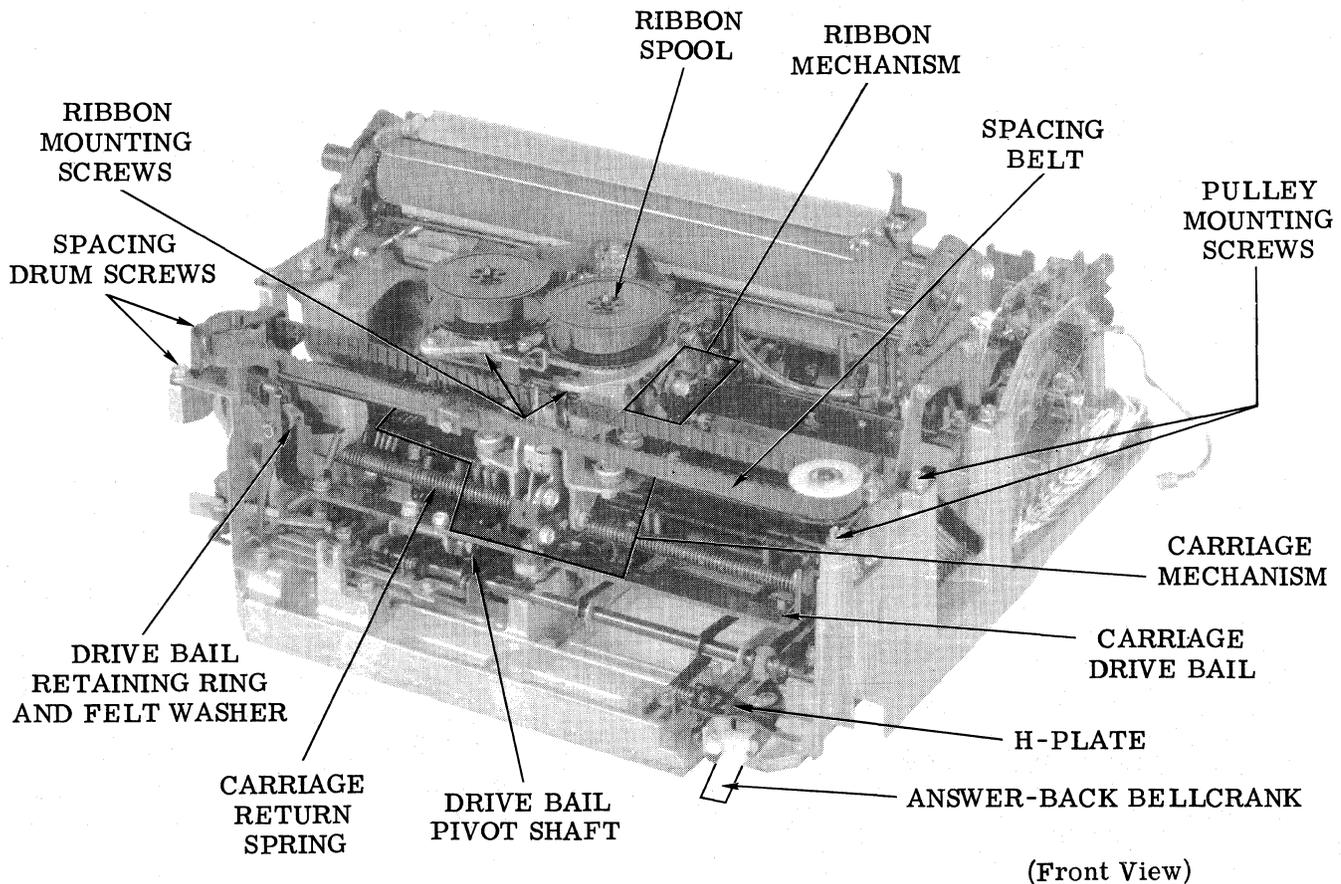

Figure 1 - Typing Unit
2.01 To remove ribbon mechanism (Figure 1), proceed as follows.
2.02 To remove carriage mechanism (Figure 1), proceed as follows.
2.03 To remove carriage drive bail (Figures 1 and 2), proceed as follows.